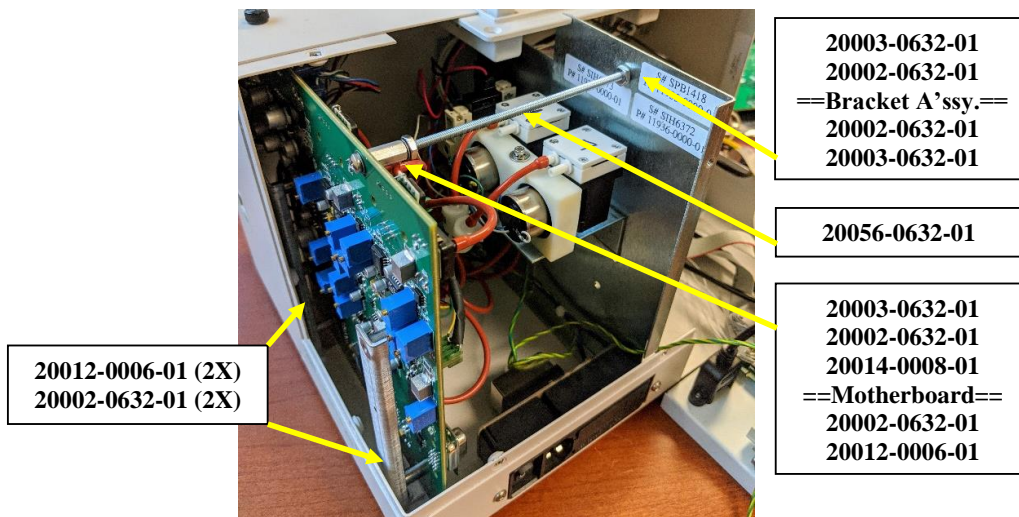

Figure 51
- 19.4. Mount the Motherboard onto the Chassis using two (2) 6-32x3/8" Pan Head Screws (20012-0006-01) and two (2) #6 Lockwashers (20002-0632-01) as shown in Figure 51 (screws come up from bottom of chassis into the PCB Brackets).
- 19.5. Add two (2) 6-32 Nuts (20003-0632-01) to a 5" piece of 6-32 Threaded Rod (20056-0632-01), on both sides, as shown in Figure 51. Add two (2) #6 Lockwashers (20002-0632-01) onto each end. Place the Rod through the Bracket Assembly and screw into the standoff on the motherboard. Secure the Nut at the motherboard. Adjust the Nut by the Pump & Valve Bracket so that the motherboard is held vertical. Add a #6 Lockwasher and a 6-32 Nut to secure the Rod to the Bracket Assembly.